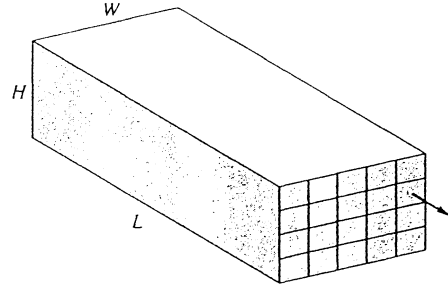

Fig. P6.98
6.98 A rectangular heat exchanger is to be divided into smaller sections using sheets of commercial steel 0.4 mm thick, as sketched in Fig. P6.98. The flow rate is 20 kg/s of water at 20°C. Basic dimensions are $L = 1$ m, $W = 20$ cm, and $H = 10$ cm. What is the proper number of *square* sections if the overall pressure drop is to be no more than 1600 Pa?